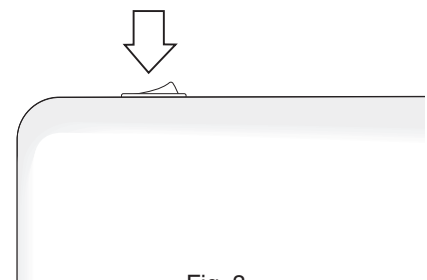

Fig. 3
The interior oven light will automatically turn ON when the oven door is opened. Press the Oven Light Switch located on the upper left control panel to turn the interior oven light ON and OFF whenever the oven door is closed (Fig.3).
3. Firmly grasp both sides of oven door along the door sides (Do not use the oven door handle - See Fig. 3).
1. Firmly grasp both sides of oven door along the door sides (Do not use the oven door handle - See Fig. 3).